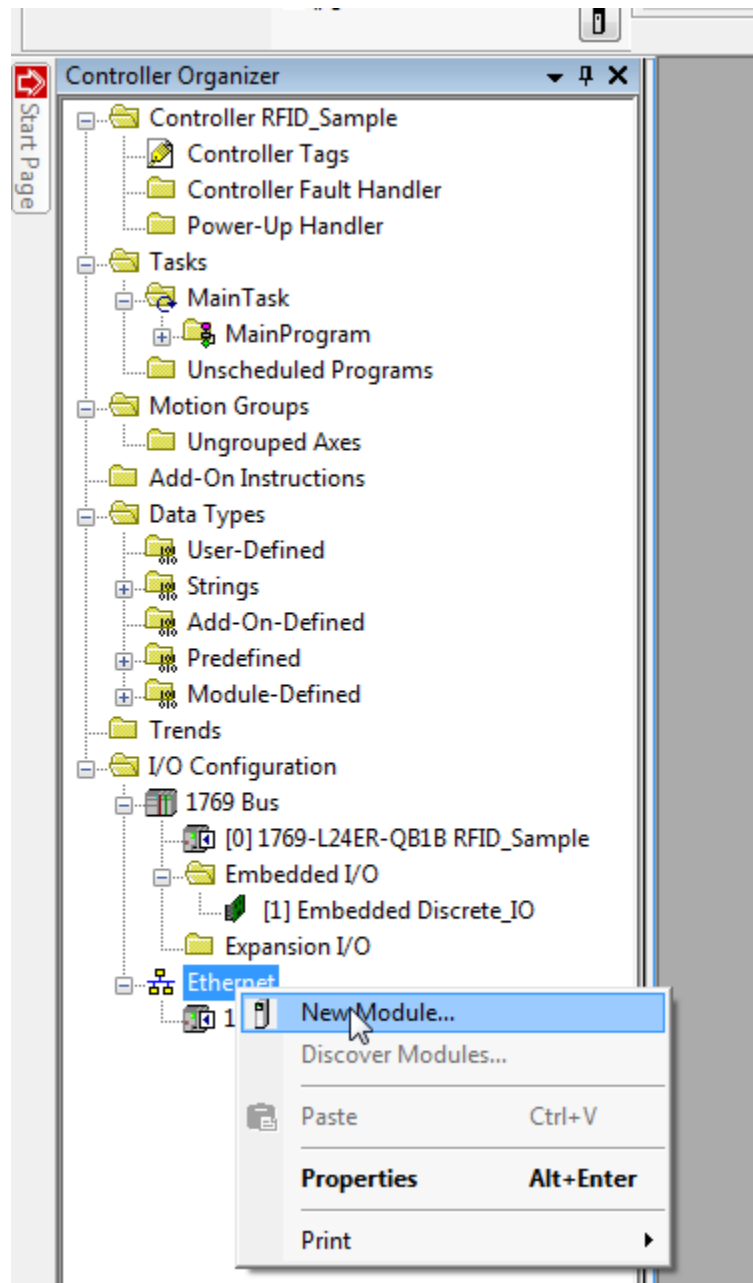

Figure 7: Add new Ethernet controller
Step 2: Select your ethernet card or port and add a “New Module”. See Figure 7.